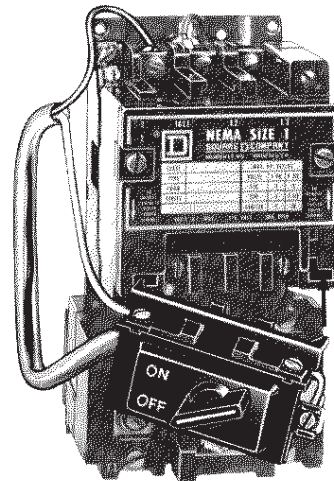

Figure 1
7. Press selector-switch unit into place on contactor or starter (see Fig. 1).